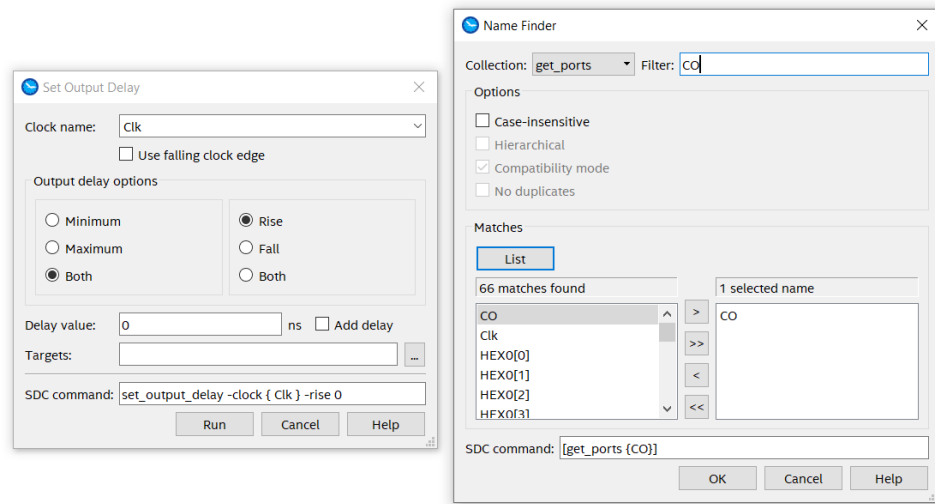

Figure 12
11. Repeat step 10 for output delay as shown in figure 12. Set output delay to be 0 ns for all the output ports.